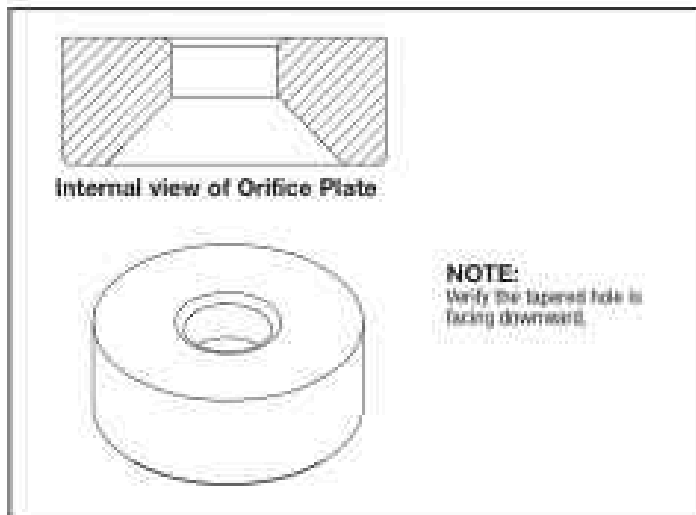

Figure 5. Orifice Plate Proper Orientation
**NOTE:** The JAOPX200 includes the flow meter assembly and orifice plate. They are supplied to assist with the system operating with a slower flow requirement. Use the orifice plate to improve the injector manifold suction if the testing results in inadequate flow which affects the system's proper operation. See Figures 5 and 6.